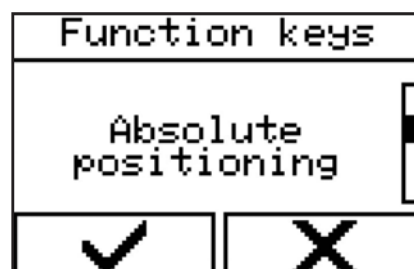

Figure 42 - Selecting a menu
1. Select the menu via 'Hand switch' → 'Premium functions' → 'Settings of function keys' → 'Absolute positioning' (Figure 42).